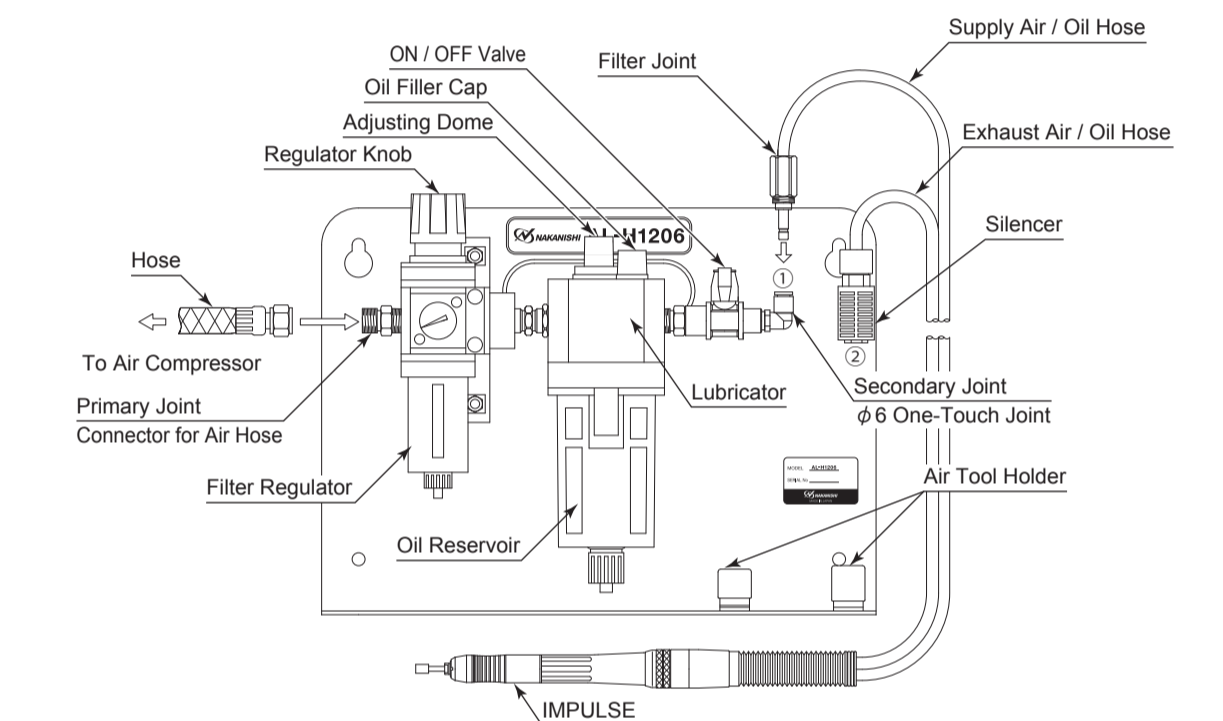

Fig. 15 Connecting to the Air Line Kit " AL - H1206 " (Option)
- Connect the Filter Joint of the Air Grinder to the Secondary Joint (φ6 One-Touch Joint) on the Air Line Kit (Fig. 15 ①).
- Place exhaust air / oil hose with silencer into an empty container (Fig. 15 ②) (Exhaust outlet air and oil from the Silencer).